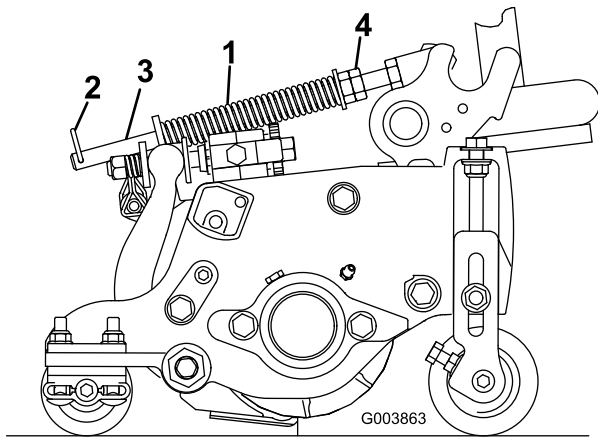

Figure 15
The turf compensation spring (Figure 15) transfers weight from the front to the rear roller. (This helps to reduce a wave pattern in the turf, also known as marcelling or bobbing.)
1. Make sure the hairpin cotter is installed in the rear hole in the spring rod (Figure 15).
2. Tighten the hex nuts on the front end of the spring rod until the compressed length of the spring is 12.7 cm (5 inches) on Reelmaster 5410, 5 inch cutting units or 15.9 cm (6.25 inches) on Reelmaster 5510 & 5610, 7 inch cutting units (Figure 15).